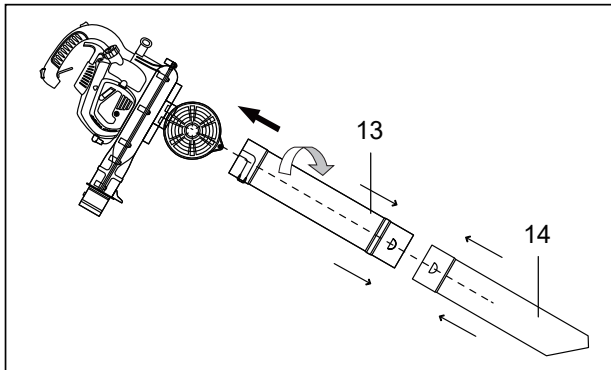

Fig. 4
2. Secure the upper and lower vacuum tubes (13,14) together by aligning the raised locking tabs with the matching openings on the upper vacuum tube, and push together (Fig. 4).
3. Align tabs on housing with vacuum tube assembly. Rotate clockwise to lock them in place (Fig. 4).